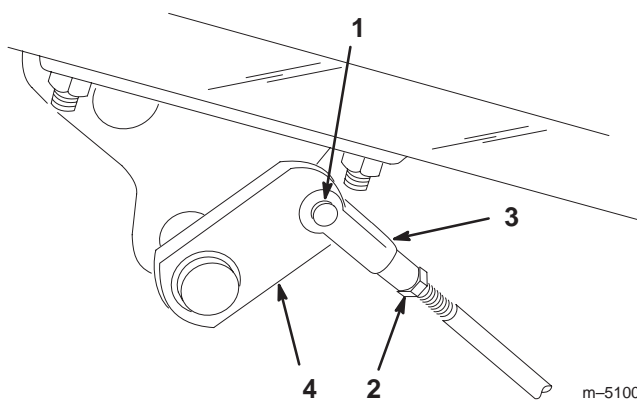

Figure 50
2. If the brakes do not lock equally, disconnect the brake rods by removing the cotter pin and clevis pin (Fig. 50).
3. Loosen the jam nut and adjust the clevis accordingly (Fig. 50).
4. Assemble the clevis to the brake shaft (Fig. 50).